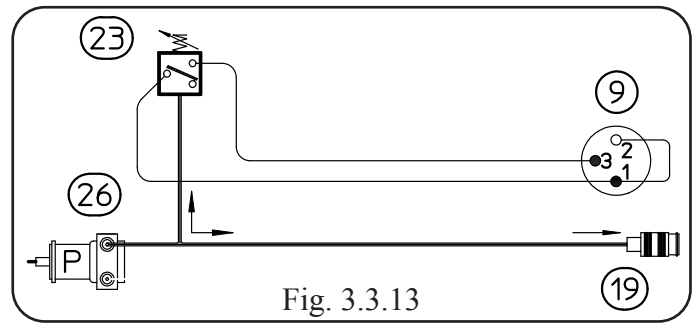

Fig. 3.3.13
Upon power source start-up, the panel board (48) checks whether the cooling unit is connected, by means of the signal provided by the jumper on terminals 1 - 2 of the connector (9) on cooling unit (Fig. 3.3.13).
- Fans (2) terminals, on cooling unit, voltage = 220 Vac, with cooling unit enabled.
- With power source off, temporarily disconnect the wires from the fans terminal board and check the resistance between the terminals of fans (2) (fans (2) winding resistance). Correct value = approximately 750 ohm.
PRESSURE SWITCH (23) TEST (Fig. 3.3.13 and Connectors map, par. 5.7).
- Power board (45), connector J4, terminals 1(+) - 4(-) = 0 Vdc, with pump (26) running (pressure switch contact closed = suitable pressure); +24 Vdc, approx. with power source on and pump (26) stopped (pressure switch contact open = pressure low).